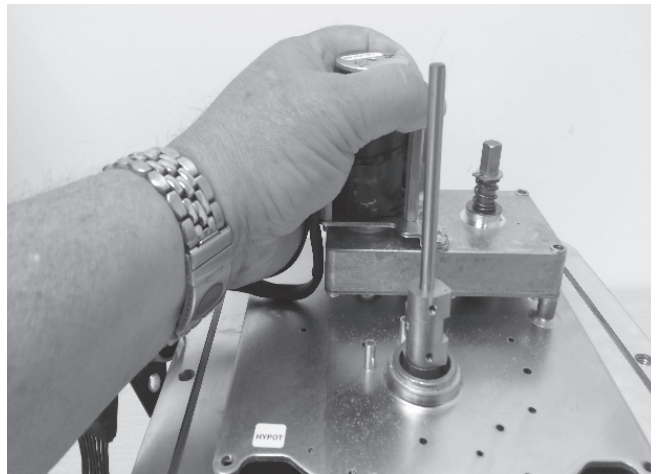

Figure 11.
- 4.13 Grasp the motor/gearbox and lift the support plate off the base casting, see Figure 11.